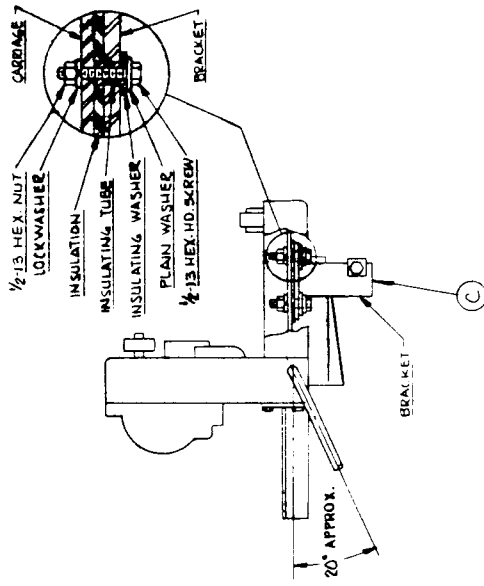

Fig. 3
- C. Install the head mounting bracket (C), which is supplied with the wire leader, to the head lift plate per Fig. 3 using the hardware and insulation supplied. The head mount is to be electrically isolated from the carriage frame.